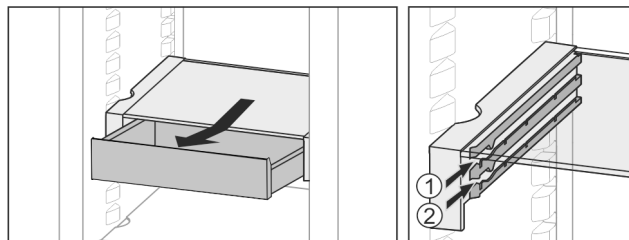

Fig. 22
- ▶ Slide back at the height you want Fig. 22 (1) or Fig. 22 (2).